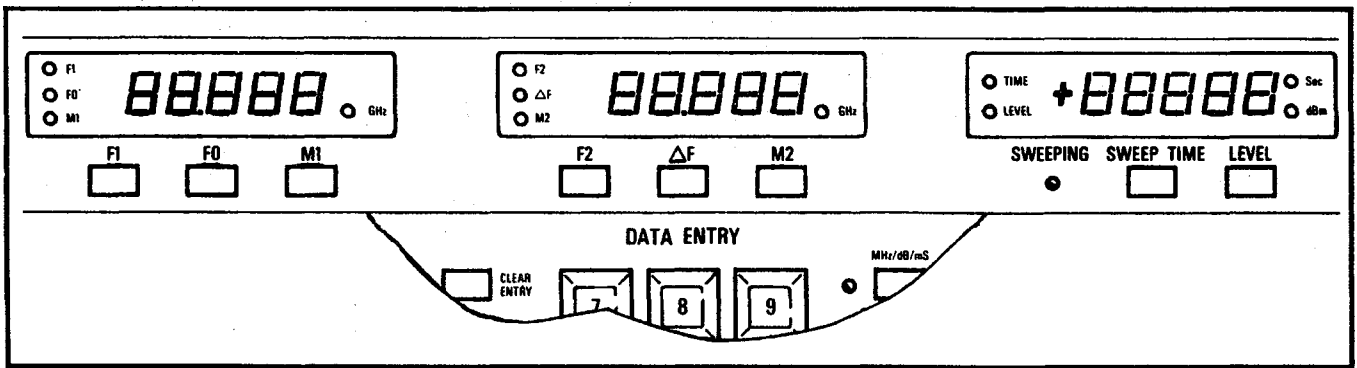

Figure 3-4. F1, F0, M1, F2, ΔF, M2, SWEEP TIME and LEVEL Pushbuttons and SWEEPING Indicator
a. F1, F0, M1, F2, ΔF, M2, SWEEP TIME, and LEVEL Pushbuttons and SWEEPING Indicator (Figure 3-4).